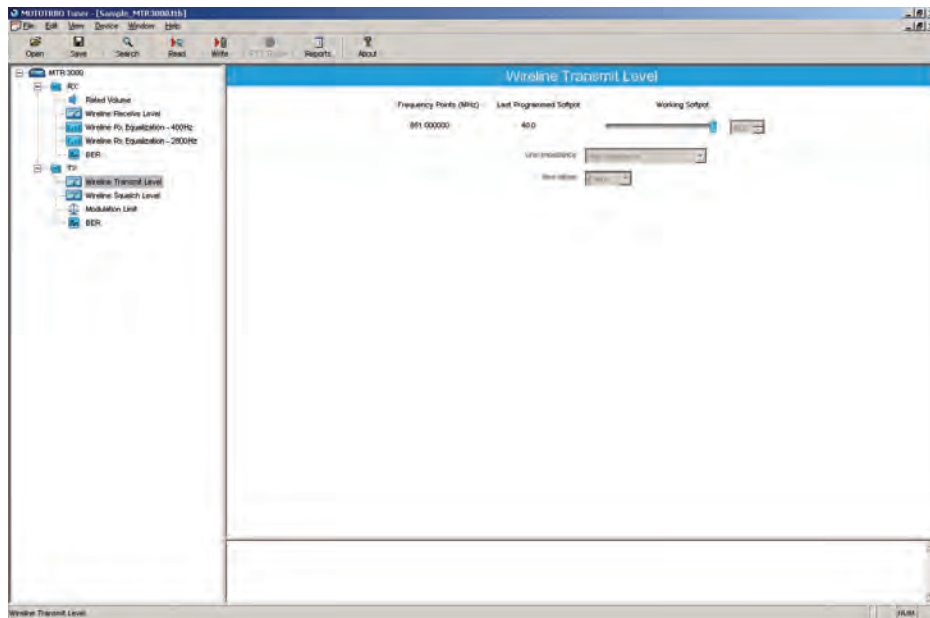

Figure 13-9 Tx Menu tree (Wireline Transmit Level)
5. Select “Wireline Transmit Level” under the Tx menu in the tree view (Refer to Figure 13-9).